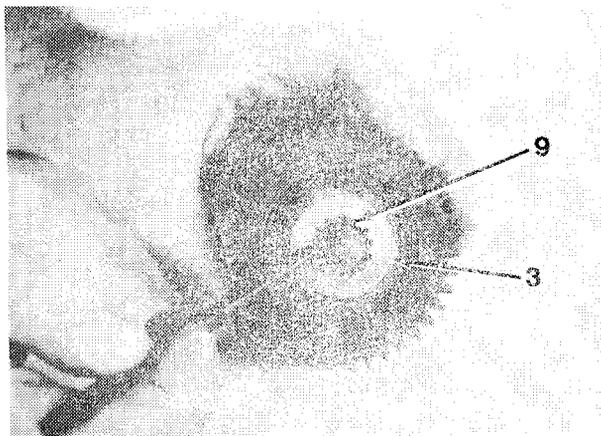

Figure 16-6
7. Install snap ring (9). Make sure snap ring (9) is seated in groove in splined bore of brake cam (3, Figure 16-6).